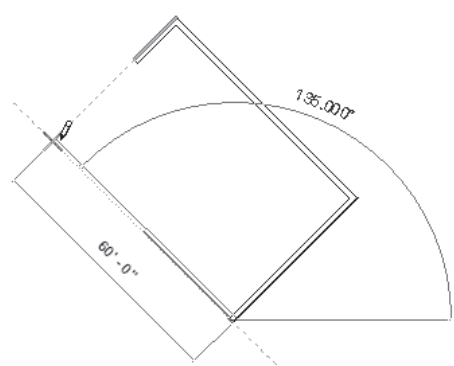

Figure 3-42 Sketching the fourth inclined wall segment
8. To create the next wall, move the cursor upward to the left until the perpendicular object snap appears. When the temporary dimension value displays 60'0", click to create the inclined wall segment, as shown in Figure 3-42.